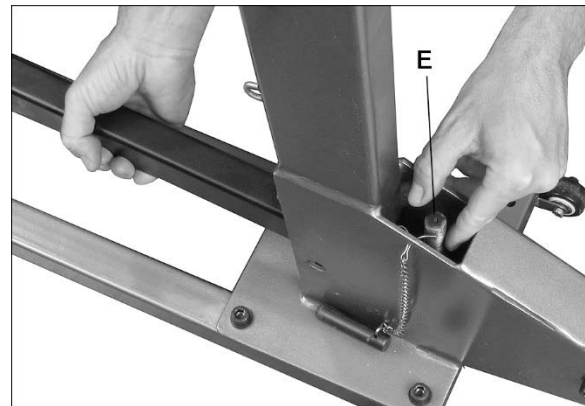

Figure 5-3
3. Continue inserting foot pedal assembly, while guiding link stud up into recess, as shown in Figure 5-3.